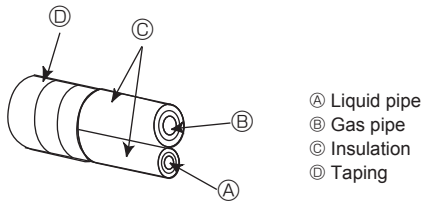
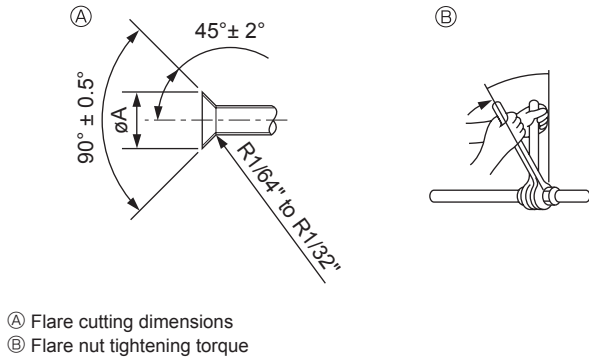

Fig. 4-2
Fig. 4-3
4.3. Connecting pipes (Fig. 4-2) (Fig. 4-3)
- [Fig. 4-3]
- Apply thin layer of refrigerant oil to pipe and joint seating surface before tightening flare nut. (A)
- Use 2 wrenches to tighten piping connections. (B)
- Apply refrigerating machine oil over the entire flare seat surface. (C)
- Use the flare nuts as follows. (D)
- ① Pipes must be connected starting from the indoor unit.
(A) (Fig. 4-3)